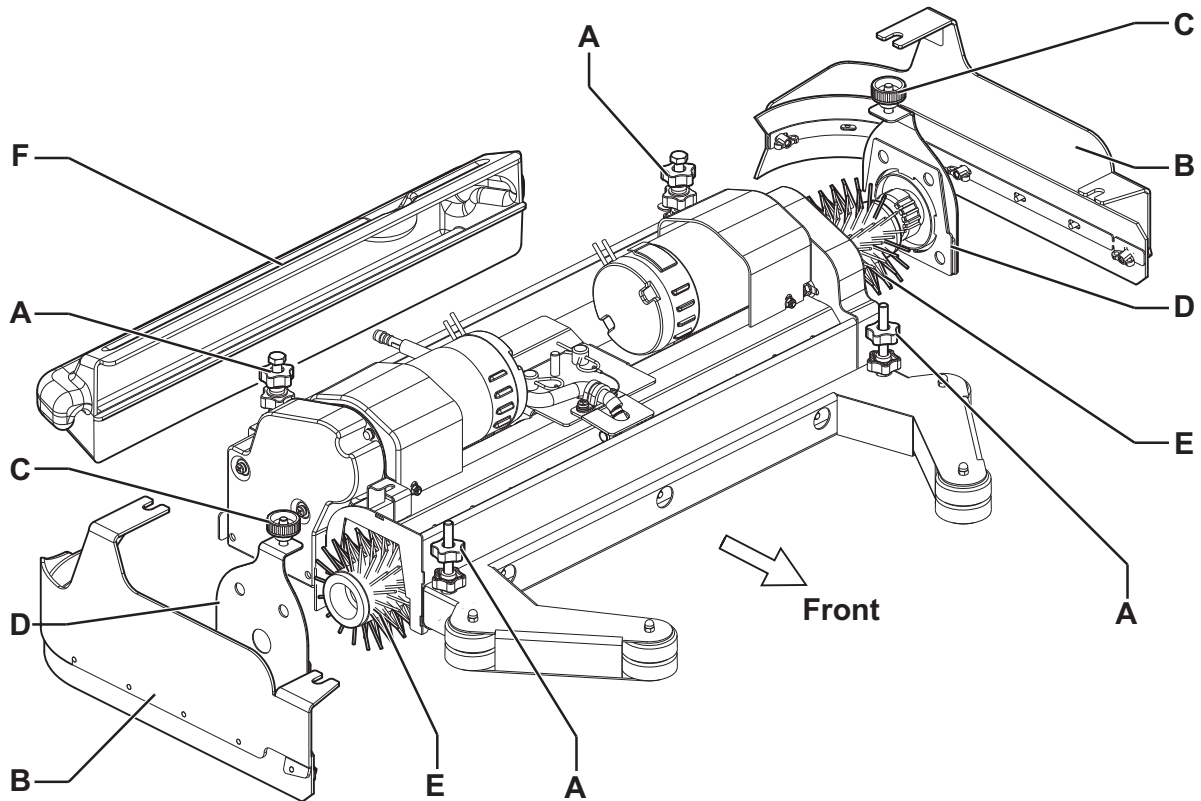

Figure 2
2. Lift the deck by pressing the switch (63).
3. Turn the ignition key (58) to "0" and remove it.
4. On both sides of the machine, unscrew the knobs (A, Fig. 2) and remove the side skirt assemblies (B).
5. Unscrew the knobs (C) and remove the lids (D) by pushing the knobs downwards.
6. Install the cylindrical brushes (E), or remove them to install new ones.